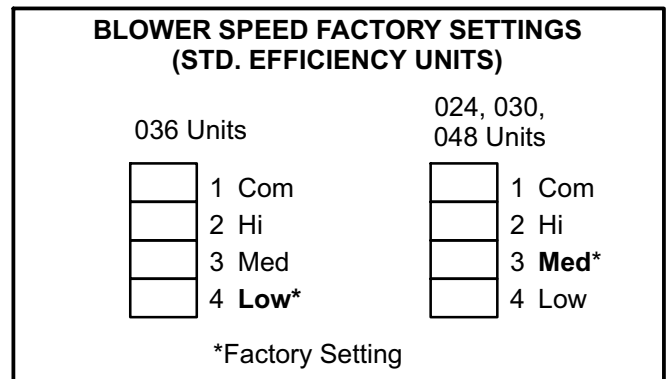
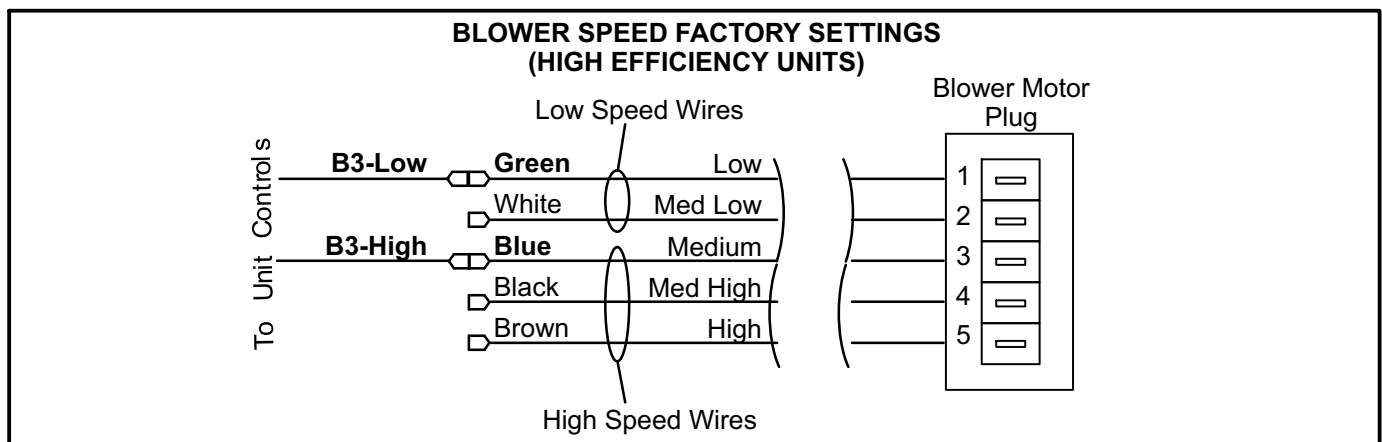

FIGURE 12
FIGURE 13
- 3- Use figure 12 to determine the factory set blower speed(s) for standard efficiency units and figure 13 for high efficiency units.
If low speed CFM is lower than the design specified CFM, move the lead marked *B3-Low* from the green wire to the white wire. See figure 13. If high speed CFM is lower than the design specified CFM, move the lead marked *B3-High* from the blue wire to the black (med. High) or brown (high) wire. Refer to table 1 for minimum airflow when electric heat is installed.